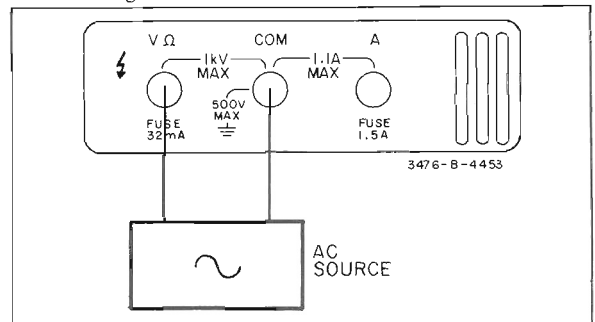

Figure 3-3. AC Voltage Measurement.
- DC/AC (--- ~). ~ (IN)
- VOLTS (V) (IN)
- AMPS (A) AND kΩ. (OUT)
3-13. Connect test leads from the Multimeter V Ω (HI) and COM (LOW) connectors to the voltage under test as shown in Figure 3-3.